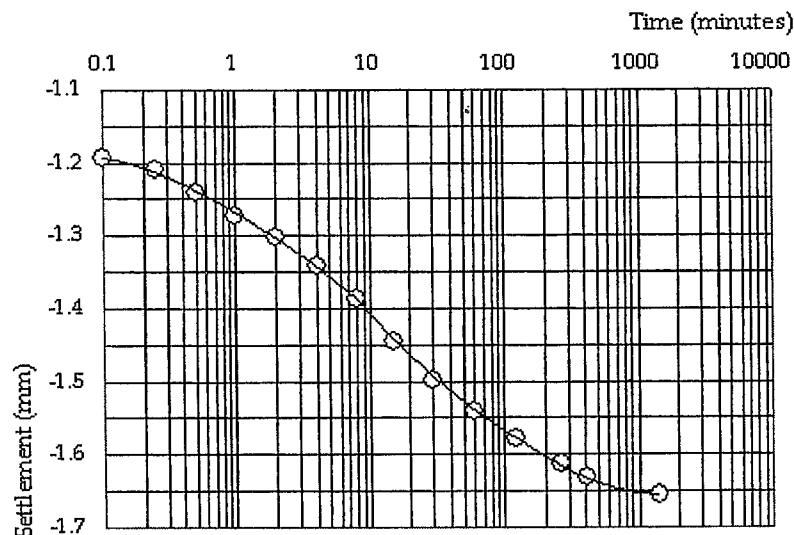

Figure Q4
4. Figure Q4 shows the settlement variation with time obtained for a load of 8kg, during a One Dimensional Consolidation Test. The initial height of the test specimen is determined to be 20mm.